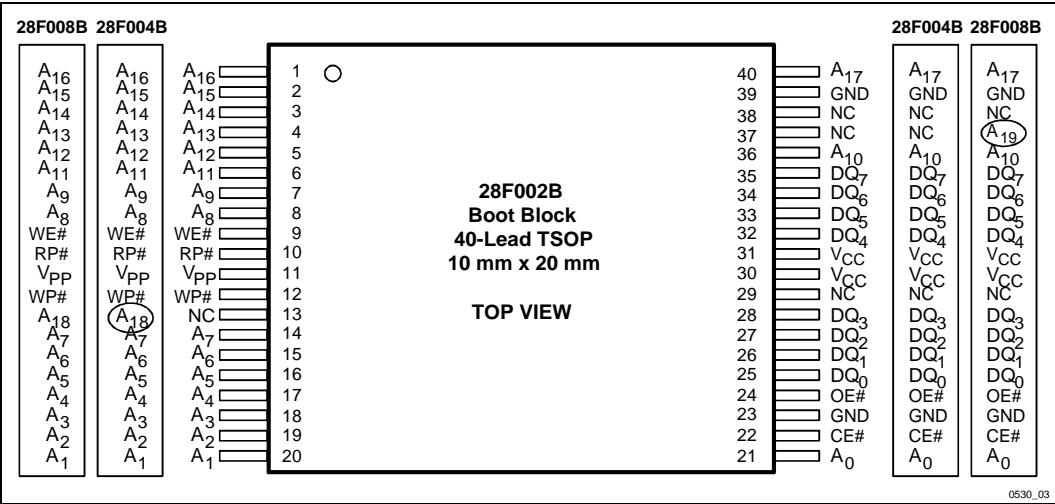
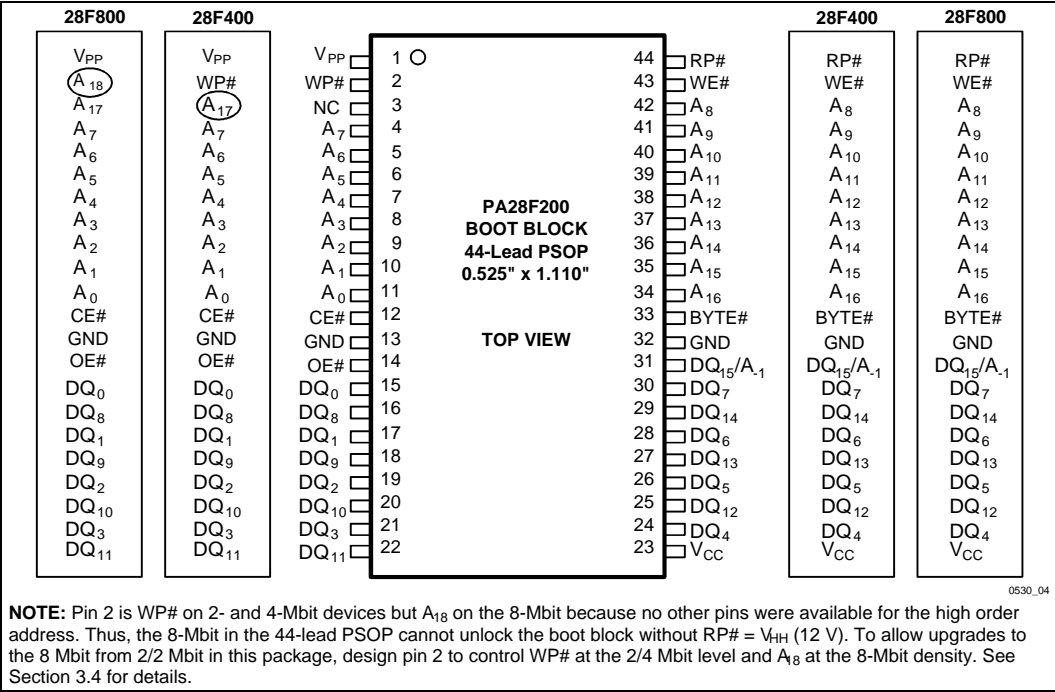
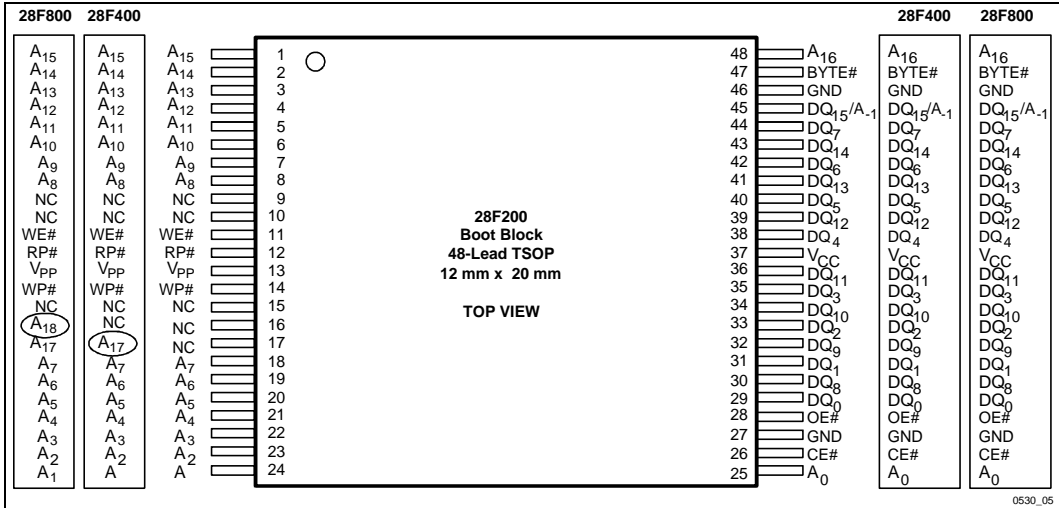
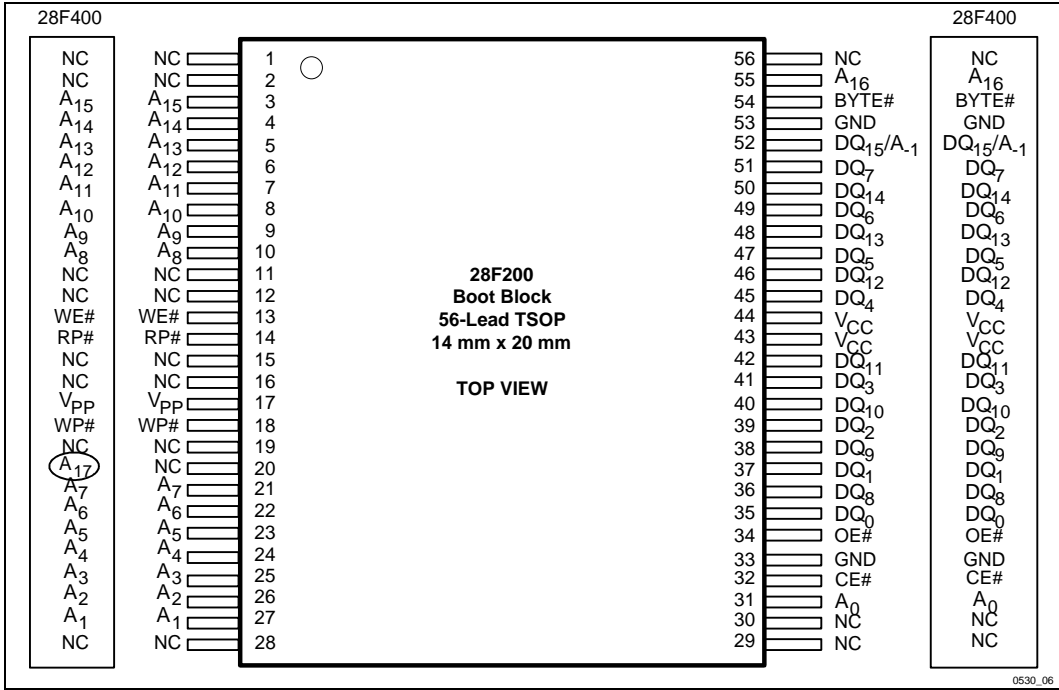

Figure 3. The 40-Lead TSOP Offers the Smallest Form Factor for Space-Constrained Applications
Figure 4. The 44-Lead PSOP Offers a Convenient Upgrade from JEDEC ROM Standards
Figure 5. The 48-Lead TSOP Offers the Smallest Form Factor for x16 Operation
Figure 6. The 56-Lead TSOP Offers Compatibility between 2 and 4 Mbits
-002	<p>Status changed from Product Preview to Preliminary</p> <p>28F200CV/CE/BE references and information added throughout.</p> <p>2.7 V CE/BE specs added throughout.</p> <p>The following sections have been changed or rewritten: 1.1, 3.0, 3.2.1, 3.2.2, 3.3.1, 3.3.1.1, 3.3.2, 3.3.2.1, 3.3.3, 3.3.4, 3.6.2.</p> <p>Note 2 added to Figure 3 to clarify 28F008B pinout vs. 28F008SA.</p> <p>Sentence about program and erase WSM timeout deleted from Section 3.3.3, 3.3.4.</p> <p>Erroneous arrows leading out of error states deleted from flowcharts in Figs. 9, 10.</p> <p>Sections 5.1, 6.1 changed to "Applying <math>V_{CC}</math> Voltages." These sections completely changed to clarify <math>V_{CC}</math> ramp requirements.</p> <p><math>I_{PPD}</math> 3.3 V Commercial spec changed from 10 to 5 <math>\mu A</math>.</p> <p>Capacitance tables added after commercial and extended DC Characteristics tables.</p> <p>Test and slew rate notes added to Figs. 12, 13, 19, 20, 21.</p> <p>Test configuration drawings (Fig. 14, 22) consolidated into one, with component values in table. (Component values also rounded off).</p> <p><math>t_{ELFL}</math>, <math>t_{ELFH}</math>, <math>t_{AVFL}</math> changed from 7 to 5 ns for 3.3 V BV-60 commercial and 3.3 V TBV-80 extended, 10 to 5 ns for 3.3 V BV-80 and BV-120 commercial.</p> <p><math>t_{WHAX}</math> and <math>t_{EHAX}</math> changed from 10 to 0 ns.</p> <p><math>t_{PHWL}</math> changed from 1000 ns to 800 ns for 3.3 V BV-80, BV-120 commercial.</p> <p><math>t_{PHEL}</math> changed from 1000 ns to 800 ns for 3.3 V BV-60, BV-80, and BV-120 commercial.</p>
-005	<p>Corrections: Figure 4, corrected pin designation 3 to "NC" from A17 on PA28F200.</p> <p>Corrected typographical errors in Ordering Information.</p> <p>Added New Design Recommendations section to cover page.</p> <p>Updated Erase Suspend/Resume Flowchart</p>
The 28F200 products are available in a ROM/EPROM-compatible pinout and housed in the 44-lead PSOP (Plastic Small Outline) package, the 48-lead TSOP (Thin Small Outline, 1.2 mm thick) package and the 56-lead TSOP as shown in Figures 4, 5 and 6, respectively. The 28F002 products are available in the 40-lead TSOP package as shown in Figure 3.
Intel's SmartVoltage Boot Block architecture provides upgrade paths in every package pinout to the 4 or 8-Mbit density. The 28F002B 40-lead TSOP pinout for space-constrained designs is shown in Figure 3. The 28F200 44-lead PSOP pinout follows the industry-standard ROM/EPROM pinout, as shown in Figure 4. For designs that require x16 operation but have space concerns, refer to the 48-lead pinout in Figure 5. Furthermore, the 28F200 56-lead TSOP pinout shown in Figure 6 provides compatibility with BX/BL family product packages.
This product family features an asymmetrically-blocked architecture providing system memory integration. Each erase block can be erased independently of the others up to 100,000 times for commercial temperature or up to 10,000 times for extended temperature. The block sizes have been chosen to optimize their functionality for common applications of nonvolatile storage. The combination of block sizes in the boot block architecture allow the integration of several memories into a single chip. For the address locations of the blocks, see the memory maps in Figures 4 and 5.